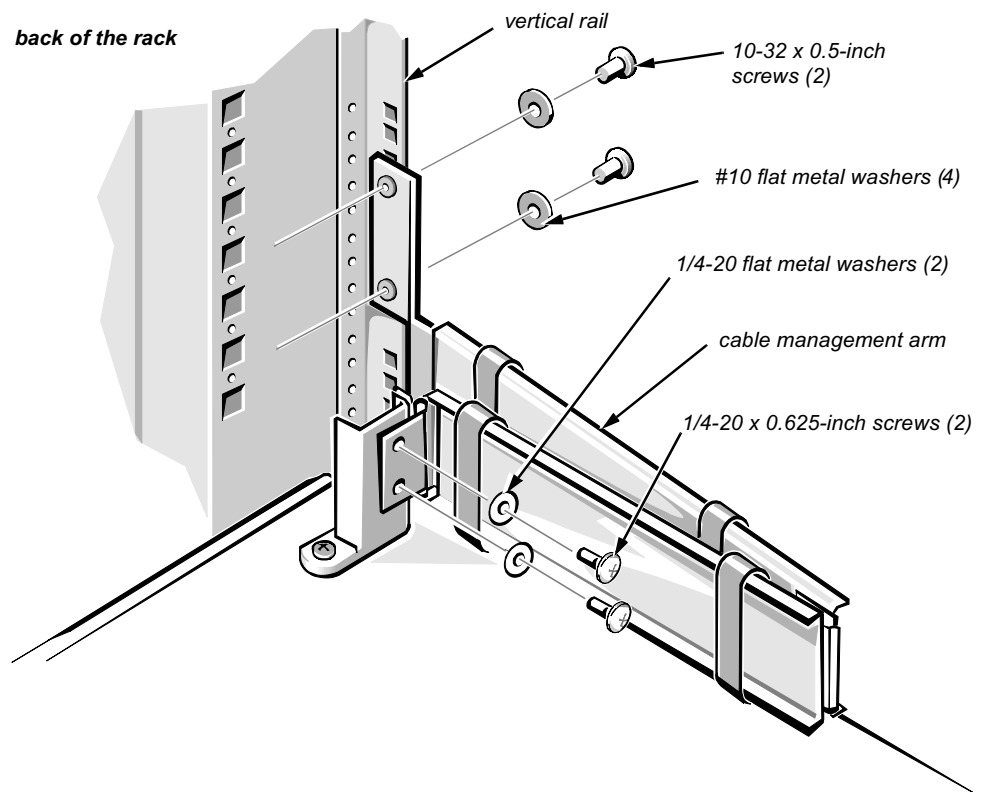

Figure 11. Installing the Cable Management Arm
Secure the cable management arm to the mounting bracket with two 1/4-20 x 0.625-inch Phillips screws and two 1/4-20 flat metal washers (see Figure 11).
- 3. Secure the loose end of the cable management arm to the back vertical rail (see Figure 11).**
Use two 10-32 x 0.5-inch Phillips screws and two #10 flat metal washers to secure the cable management arm to the back vertical rail as shown in Figure 11. This is the rail on the right side as you face the back of the rack.